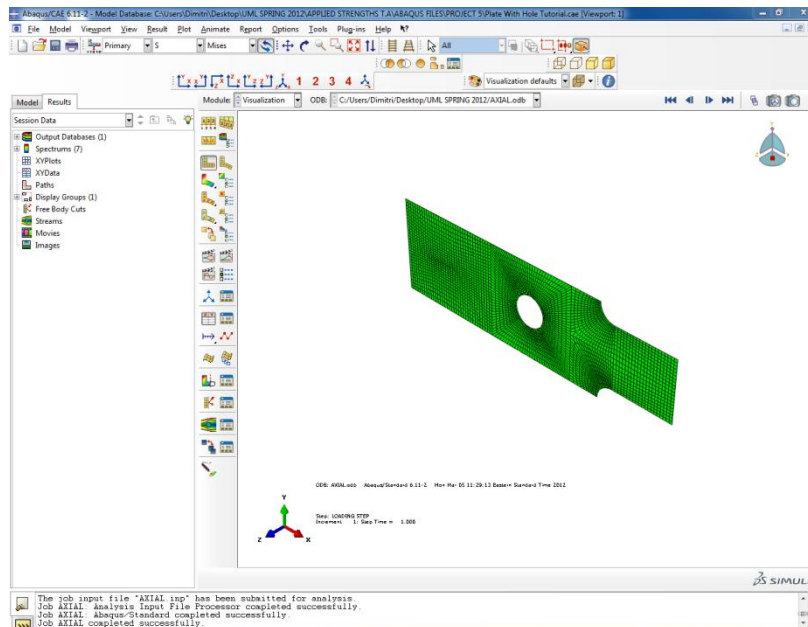

Figure 38. Analysis Results Isometric View
- If this selection was done correctly, the model should turn to a green color and the geometry will have rotated to an isometric view (Figure 38).